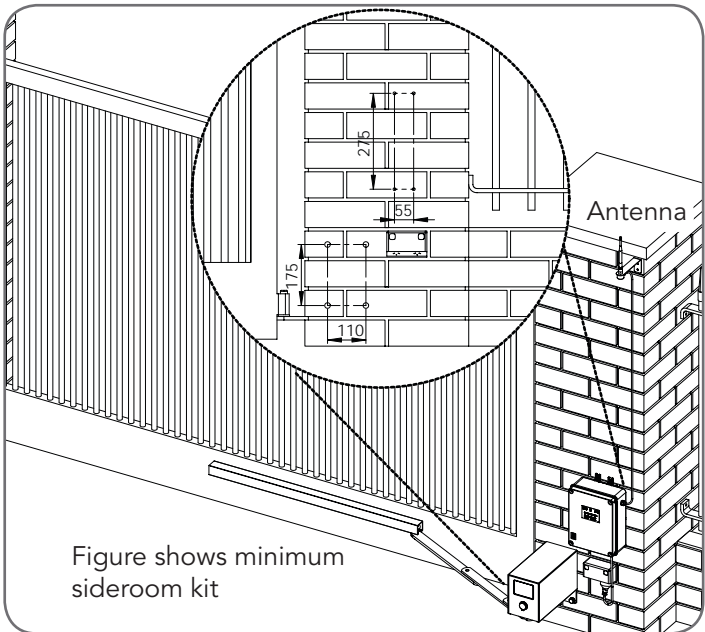

Fig 4.1
- a. The control box should be mounted near the drive unit using four (4) 6mm screws.
- b. Drill holes as per (Fig. 4.1). When locating the control box, allow ample space around the unit for easy access and wiring connections.